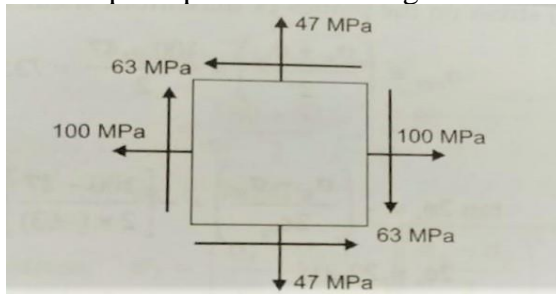

Fig Q 8(b)
- b. A rectangular block of material is subjected to a tensile stress of 100 N/mm^2 on one plane and tensile stress of 47 N/mm^2 on the plane at right angle to the first as shown in Fig Q 8(b), each of the above stresses is accompanied by shear stress of 63 N/mm^2 . Determine the magnitude and direction of each principal stress and magnitude of shear stress. **10** (3 : 4 : 2.2.4)